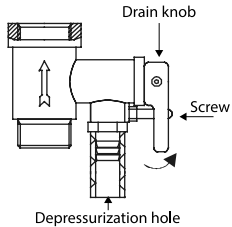

Fig. 9
6. To drain water from the internal tank properly, water can also be drained through a composite relief valve (Fig. 9) (unscrew the composite relief valve drain knob screw and set the drain knob to the upper position, at that hot water tap must be open, and cold water supply valve must be closed).